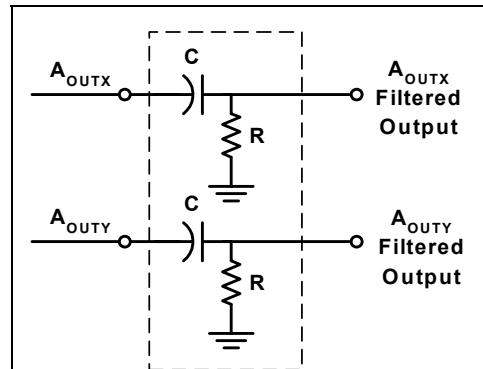

Figure 7: High Pass Filter
**AC Coupling:** For applications where only dynamic accelerations (vibration) are to be measured, it is preferable to ac couple the accelerometer output as shown in Figure 7. The advantage of ac coupling is that zero g offset variations from part to part and zero g offset drift over temperature can be eliminated. Figure 7 is a HPF (high pass filter) with a -3dB breakpoint given by the equation:  $f = 1/(2\pi RC)$ . In many applications it may be desirable to have the HPF -3dB point at a very low frequency in order to detect very low frequency accelerations. Sometimes the implementation of this HPF may result in unreasonably large capacitors, and the designer must turn to digital implementations of HPFs where very low frequency -3dB breakpoints can be achieved.